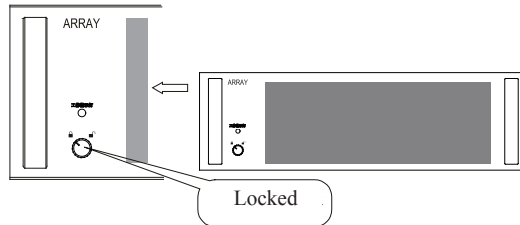

Fig. 4-4
6. Set the position lock on the front panel of the module to the “” position (Fig.4-4);